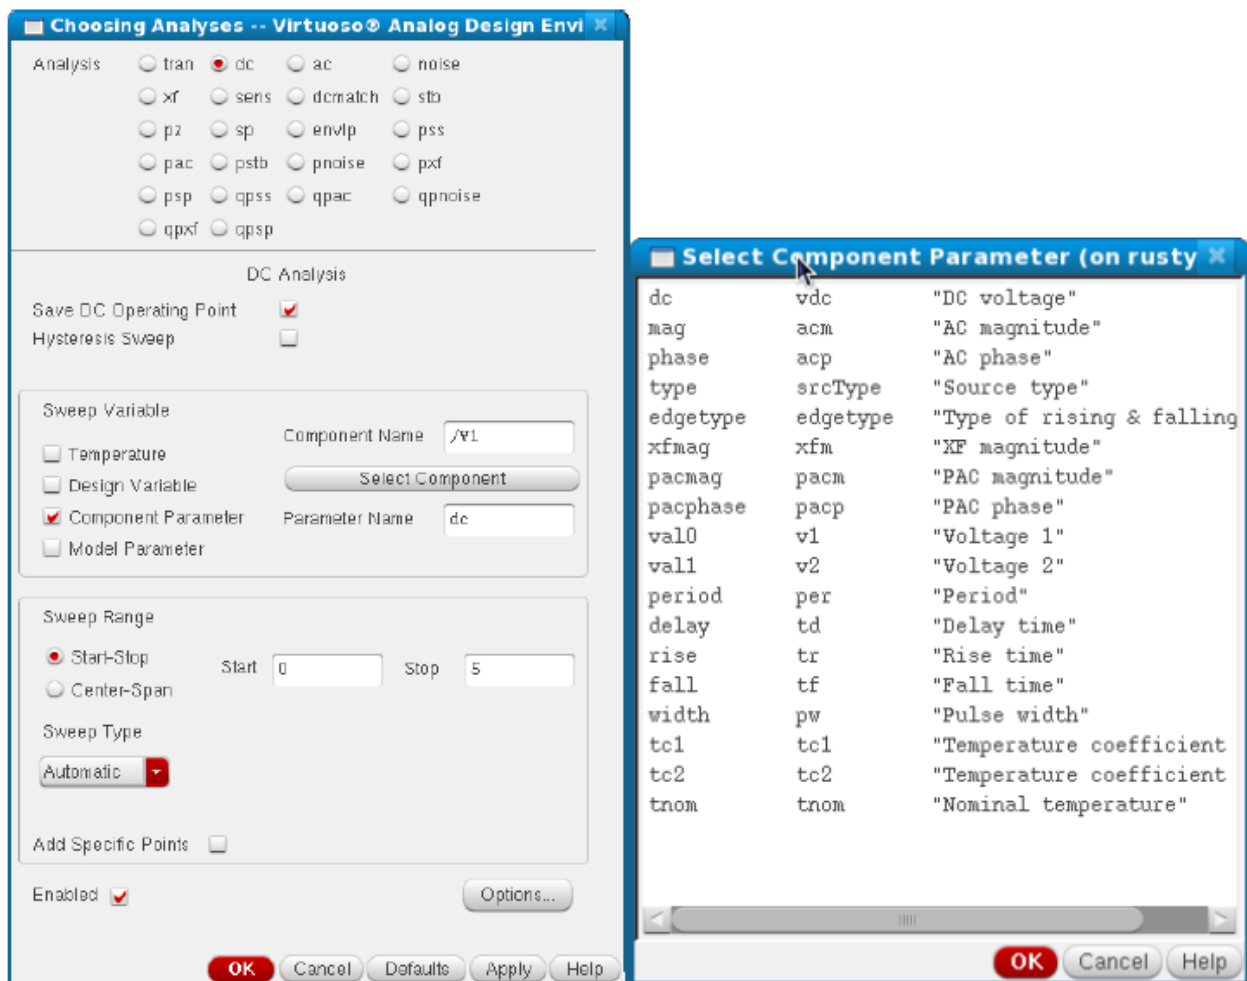

Figure 6: (a) Choosing Analysis window to select DC and Component (b) Selection of component parameters
2. Choose the analysis type by going to **Analysis → Choose** , from the window that will appear select “dc” and check “Save DC Operating Point”. Under Sweep Variable check “Component Parameter” then click on “Select Component”. The schematic composer should show up, click on the voltage pulse generator. Finally, a small pop-up window titled “Select Component Parameter” appears: Click on DC VDC “DC Voltage”. Both windows are shown in figure 6 below.